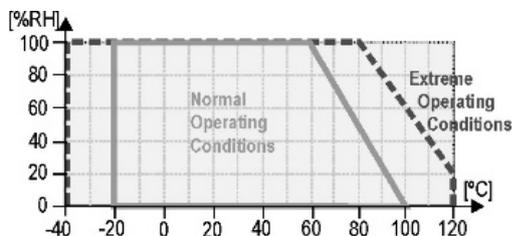

Figure 1 – Measurement accuracy and operating limits figures
Measurement range: 0 and 100 % relative humidity (RH) (see Figure 1)
Accuracy: See Figure 1
Measurement range: -20 and 100 °C (see Figure 1)